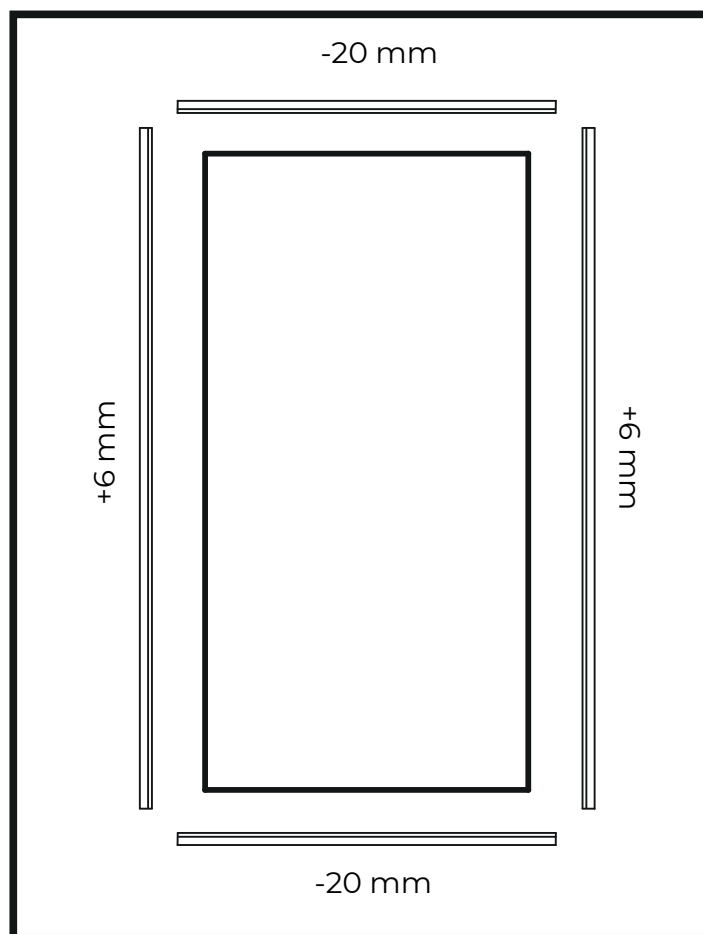

Figure 2
3. Check the length of the U-profiles and the glass. The bottom U-profile should be about 10 mm shorter than the glass and the longer vertical U-profile should be about 3 mm longer than the glass. (Figure 2)